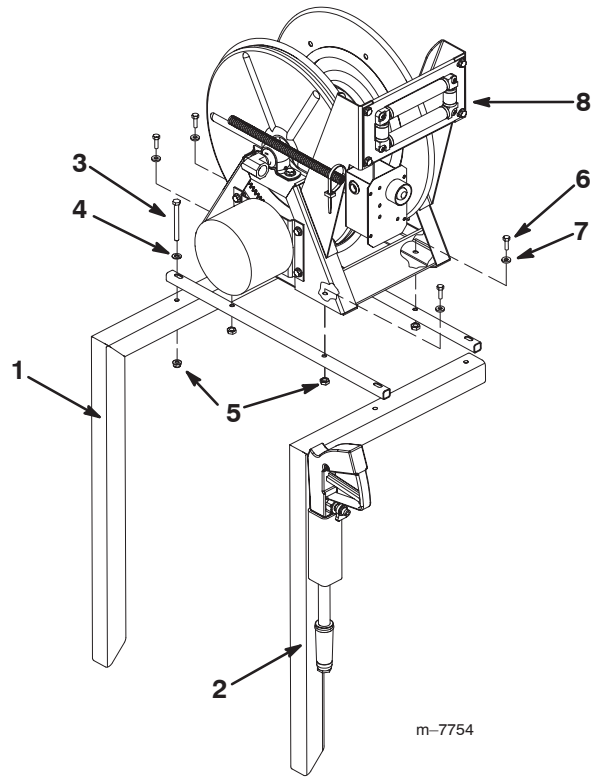

Figure 5
7. Install the 2 hose reel mounting tubes to the top of the hose reel frames (Fig. 5) using 4 bolts (5/16 x 3-1/4 inch), 4 washers (11/16 inch outside dia), and 4 flange nuts (5/16 inch). Do not fully tighten the fasteners to allow for later adjustment.
8. Install the hose reel assembly onto the hose reel mounting tubes (Fig. 5) using 4 flange-head bolts (5/16 x 1-1/2 inches), 4 washers (7/8 inch outside dia), and 4 flange nuts (5/16 inch). Do not fully tighten the fasteners to allow for later adjustment.